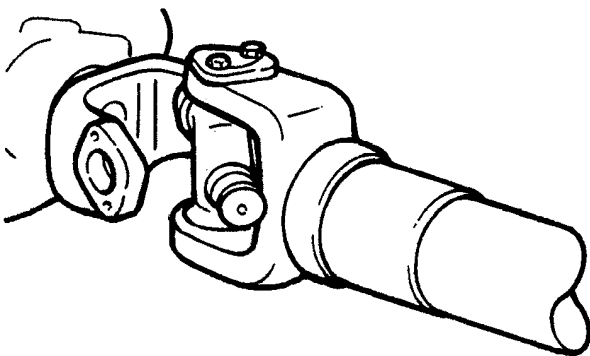

Figure 28 Push Journal Through Cross Hole in End Yoke
4. Push this journal through a cross hole in the end yoke (Figure 28).